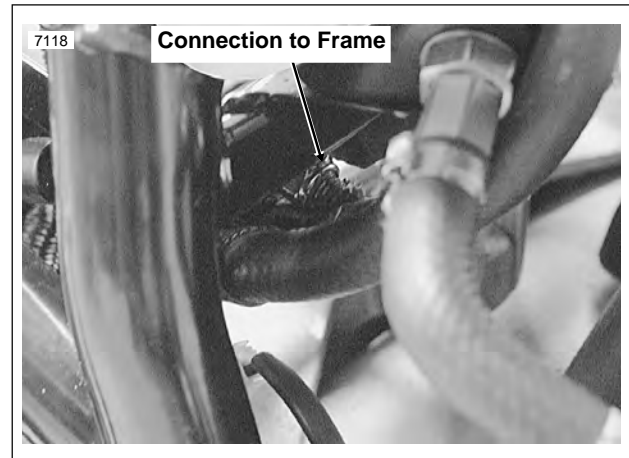

Figure 7-35. Negative Battery Cable
3. Connect tester leads to battery posts and place induction pickup over negative (black) cable. See Figure 7-35.
Positive battery cable runs from starter post to positive battery terminal. Negative battery cable runs from frame to negative battery terminal. See Figure 7-35.